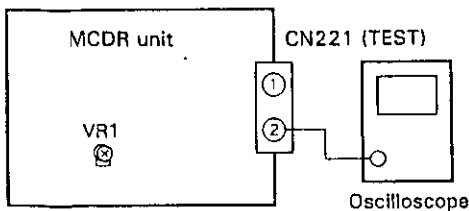
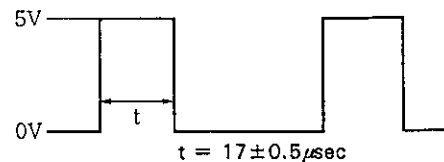

Fig. 9-2 Connection
Fig. 9-3 Waveform
1. Make the connection as shown in Fig. 9-2.
2. Set the system to the Super Manual mode (see "11. ① Super Manual mode"), then turn all DIP switches (S5 on the KDSB unit) to OFF (VD motor will be selected).
4. Adjust VR1 so that the waveform of the oscilloscope becomes $t = 17 \pm 0.5 \mu\text{sec}$ (see Fig. 9-3).